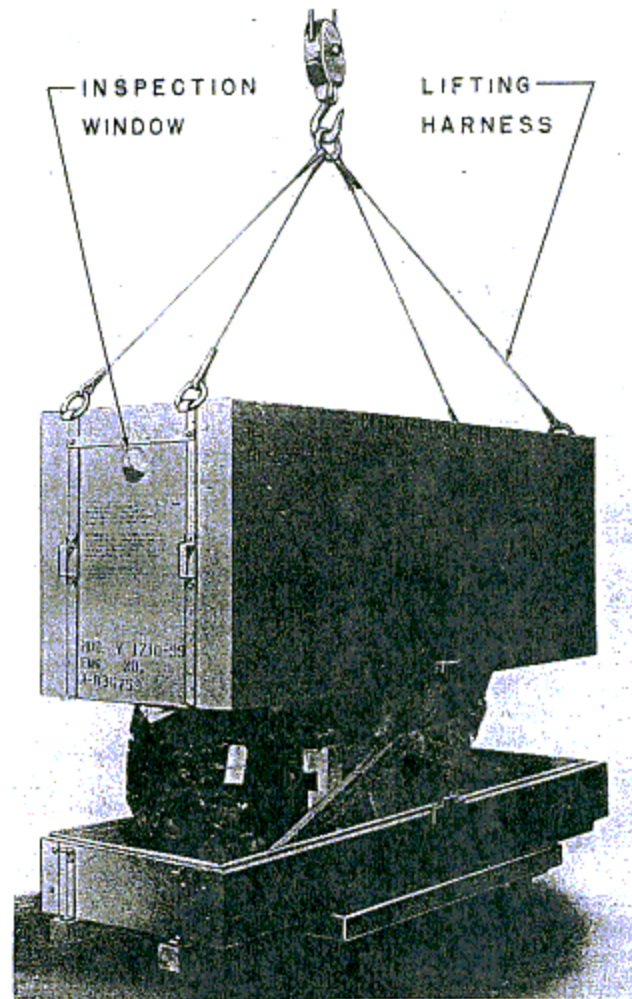

Figure 14—Removing Cover From Engine Crate
(1) To remove cover from the base of the engine shipping crate, unscrew the four clamp bolt nuts on both ends, thereby separating the two sections of the crate. Attach a lifting harness to the four hooks at the top of the lifting straps as shown in figure 14. Lift cover off the base slowly, using extreme care to avoid damaging any part of the engine.